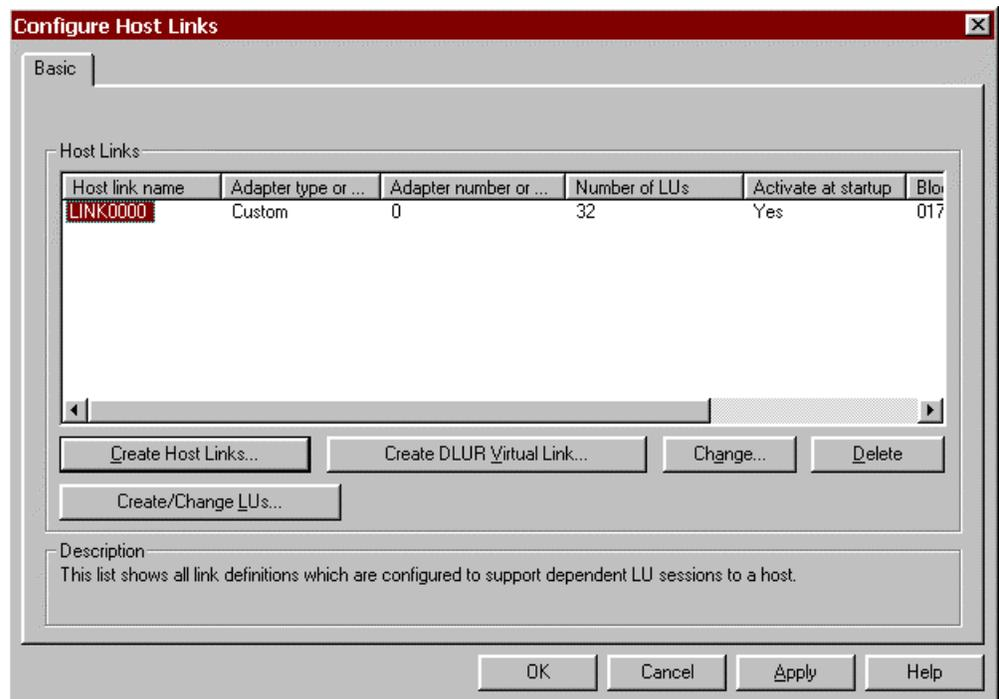

Figure 10-22. Configure Host Links with Newly Created Link0000
- Click **OK** to accept the LU definitions and complete the Host Link definition. The *Configure Host Links* screen will re-appear (Figure 10-22). The Host Link you have just defined will be displayed.